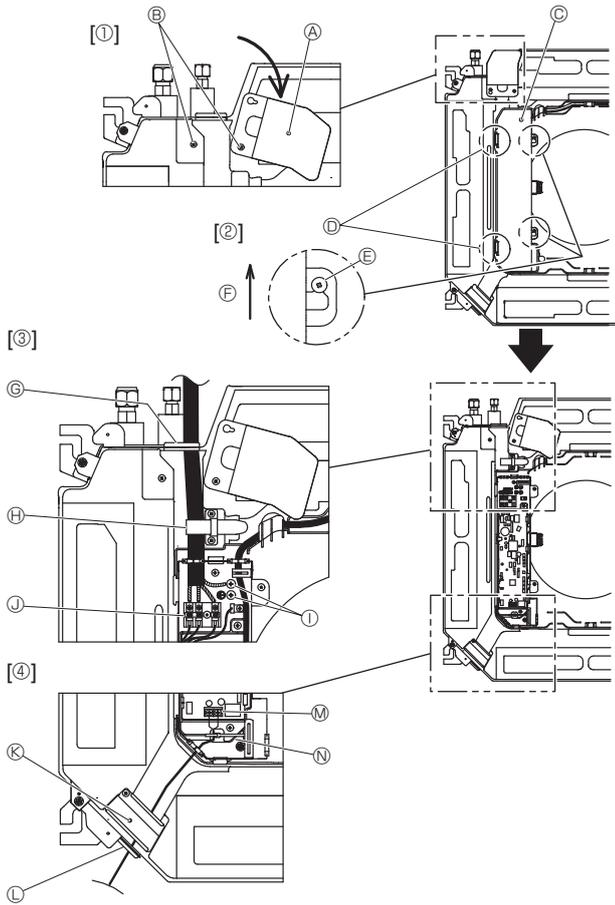

Fig. 6-1
6.1. Indoor unit (Fig. 6-1)
1. Loosen the two screws securing the electrical wiring service panel, and then turn the electrical wiring service panel. [Fig. 6-1 ①]
2. Loosen the two screws securing the electrical box cover, then slide the electrical box cover. [Fig. 6-1 ②]
3. Pass the power cable, indoor/outdoor unit connecting cable and earth cable through the wiring entries given in the diagram. [Fig. 6-1 ③]
4. Pass and wire the remote controller cable through the wiring entries given in the diagram. [Fig. 6-1 ④, Fig. 6-3]